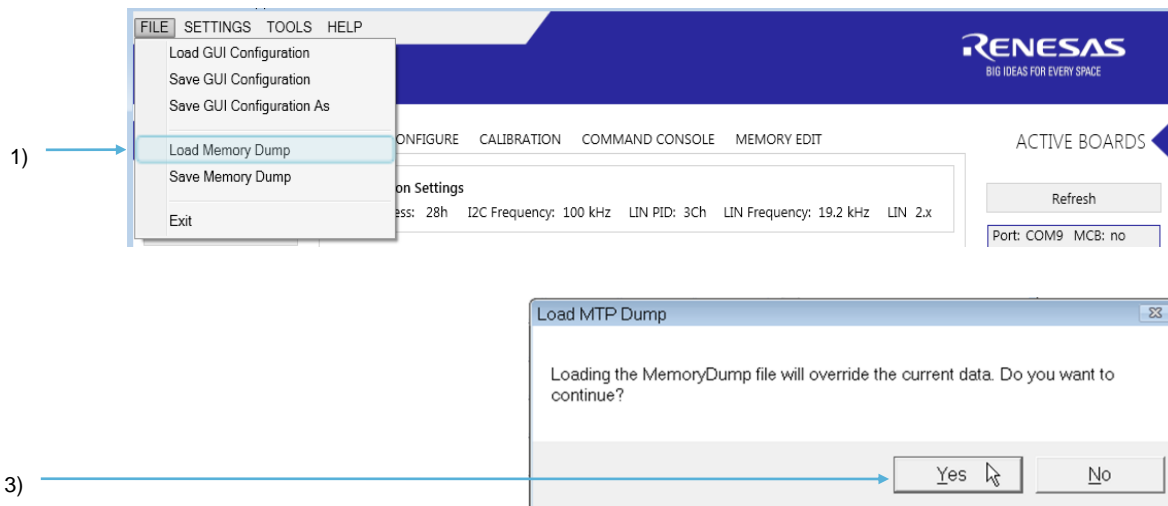

Figure 17. Load the RAM Shadow Data into GUI
1. Select FILE > Save Memory Dump to save a file containing the IC memory data (see Figure 17).
1. Select *FILE > Load Memory Dump* to load a file containing the IC RAM Shadow memory data (see Figure 17).